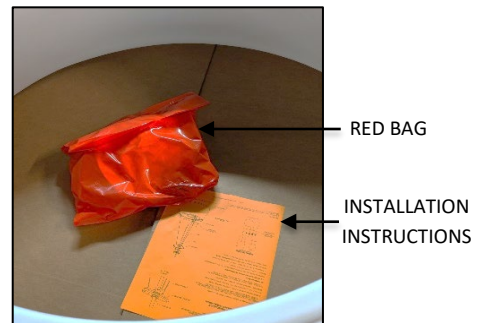

FIG.3 RED BAG AND INSTALLATION INSTRUCTIONS
2. INSTALLATION INSTRUCTIONS (shown in FIG. 3) - Please completely read the install instructions before starting installation.
3. RED BAG (shown in FIG. 3) contains below following items.